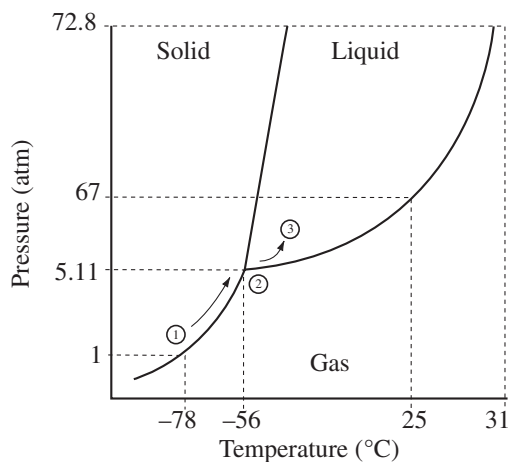

Figure 1. Phase Diagram of Carbon Dioxide
The phase diagram for carbon dioxide is shown in Figure 1. If a sample of dry ice is placed on the desk at normal atmospheric pressure (1 atm. or 14.7 psi) and room temperature (25 °C), the solid will sublime spontaneously, maintaining its temperature of $-78\text{ }^{\circ}\text{C}$ (point ①) until the solid disappears completely. The gas formed will absorb heat from the room until it obtains a stable gaseous state at $25\text{ }^{\circ}\text{C}$. If a sample of dry ice is sealed in a closed system such as the triple point apparatus, the pressure begins to rise allowing the solid to exist at a higher temperature. Most of the energy absorbed from its surroundings will result in an increased temperature and corresponding increase in vapor pressure. The effect of this increased energy is a series of pressure–temperature equilibria along the solid–gas line between points ① and ② on the phase diagram.